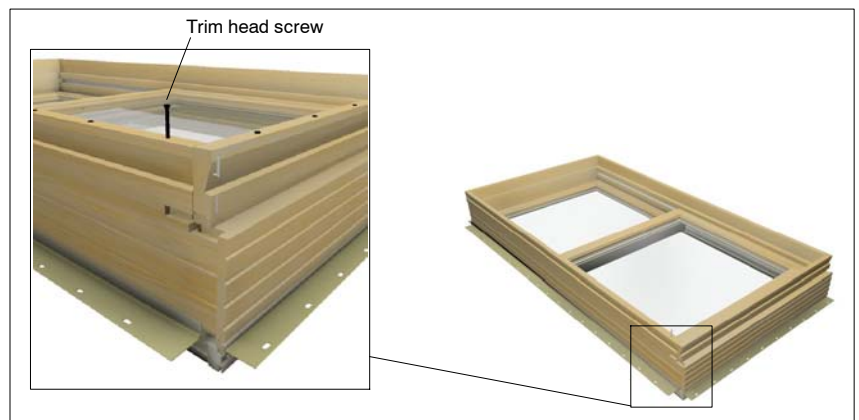

Figure 3: Using trim head screws
1. Position the jamb extension piece as described in the previous sections and drill a 5/64" (2) pilot hole in the interior face of the jamb extension. Be sure to drill the hole straight through the face without breaking out either side of the jamb extension. Drive the trim head screw and use the appropriate fastener spacing as specified in the previous sections. See figure 3.